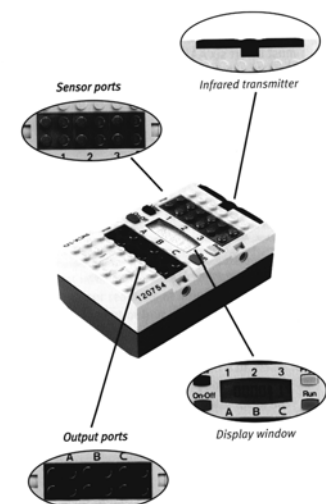

Figure 1. The RCX unit and its components.
1. Get the LEGO MINDSTORMS kit your instructor has prepared. Make sure you have all the important components in the kit. The instructor should have a list but here is the minimum: at least one motor; a light sensor; at least one touch sensor; a yellow RCX brick (the computer and battery pack, see Fig. 1); and lots of parts such as wheels, long beams, connectors, and connecting wires that run from the RCX to the motors and sensors.